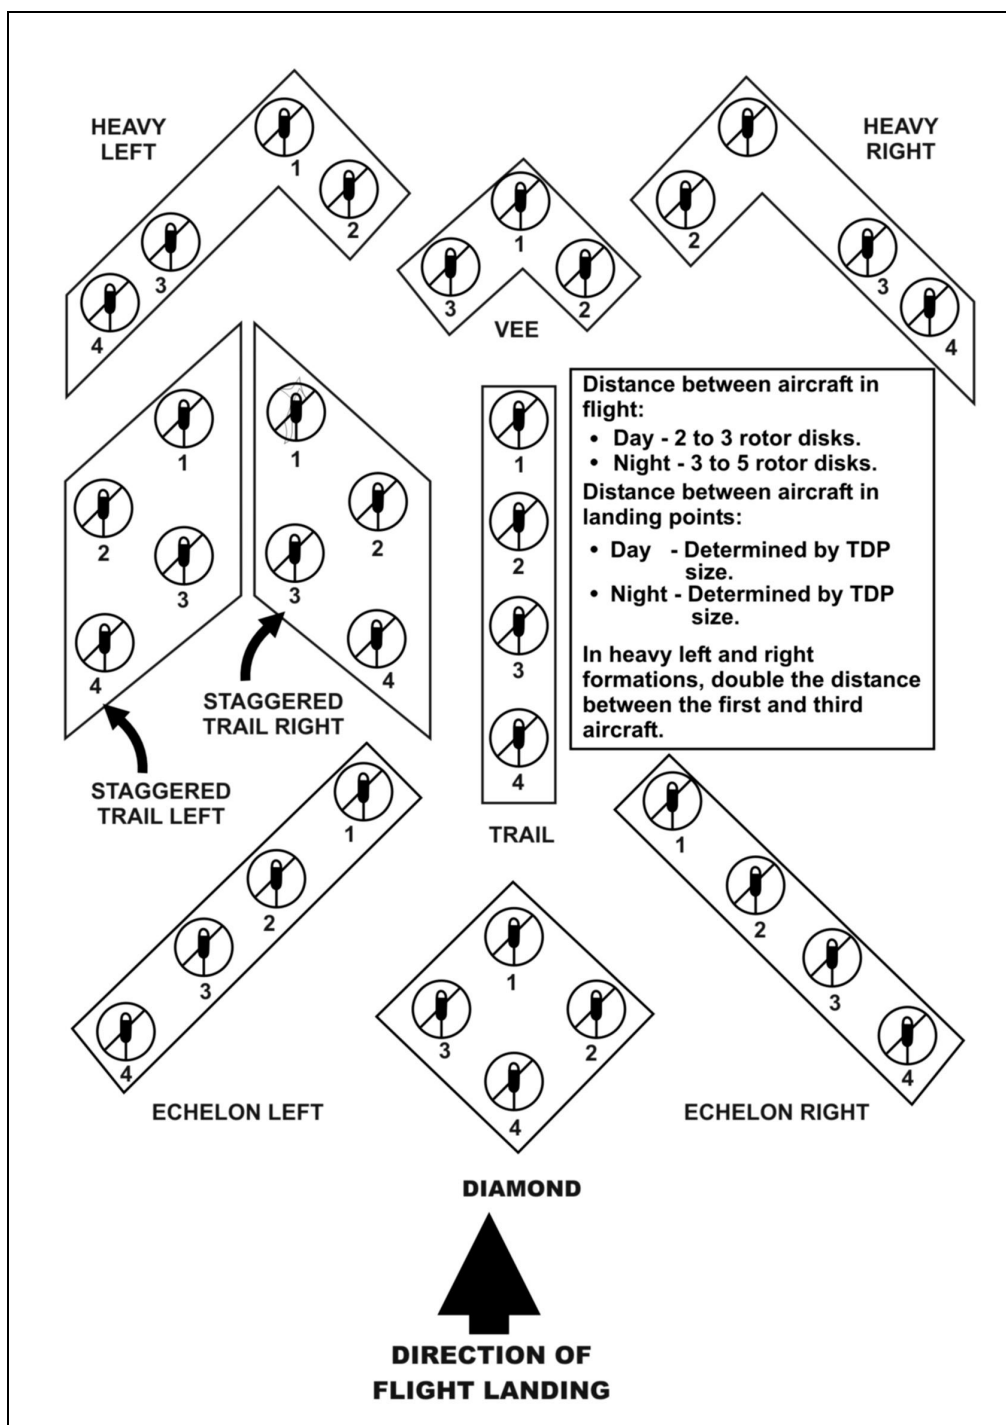

Figure 4-1. Standard flight and landing formations.
b. **Landing Formations.** Helicopter pilots should try to match the landing formation to the flight formation. Pilots should have to modify their formations no more than necessary to accommodate the restrictions of a landing site (Figure 4-1, page 4-2). However, in order to land in a restrictive area, they might have to modify their formation somewhat.